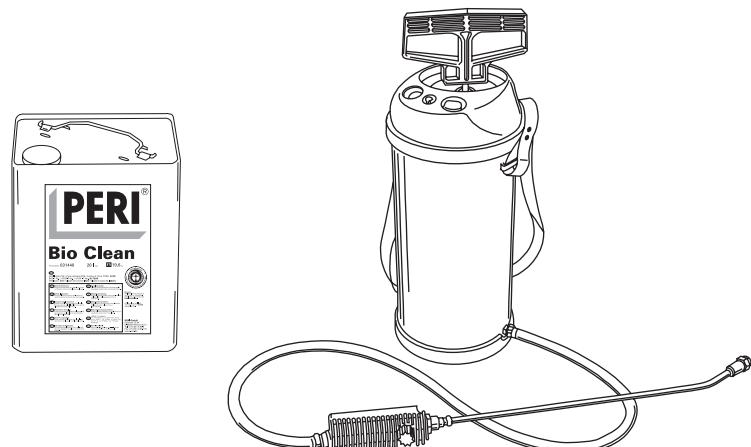

Fig.28
2. Spray with shutter oil such as PERI BIO CLEAN. Fig. 28